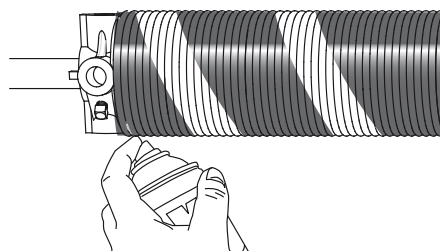

Fig: 3.8.2
- g) Oil the springs full length to prevent noise and reduce friction. TAL 5 or similar oil rich lubricant in a pressure spray can is acceptable. Fig 3.8.2